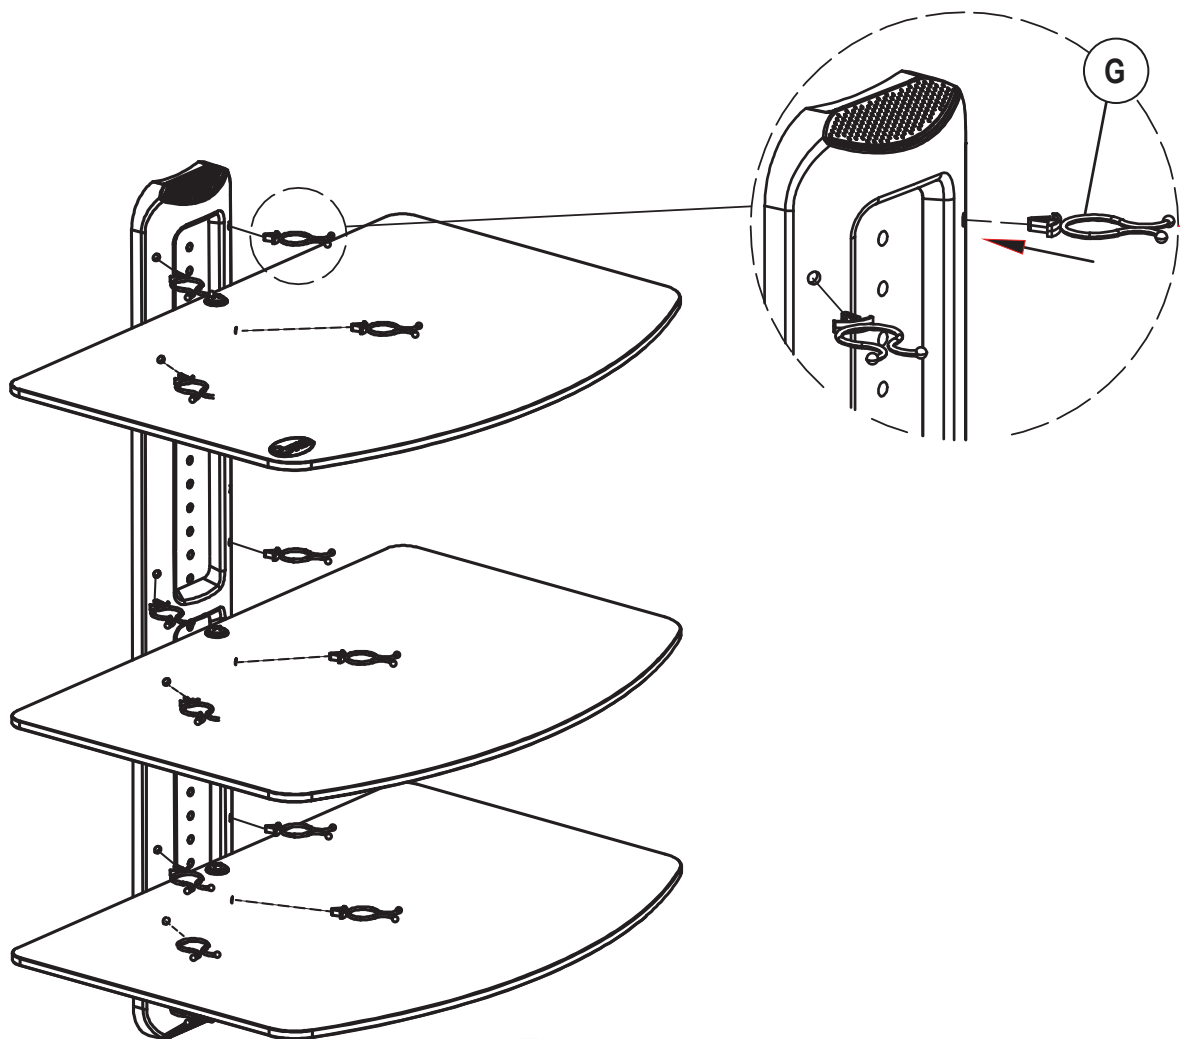

Fig. 8
Insert the **Cable Management Clips (G)** into the holes on the sides of the **Plastic Cover (2)** approximately 2" above and 2" below each shelf as shown in Fig. 8.